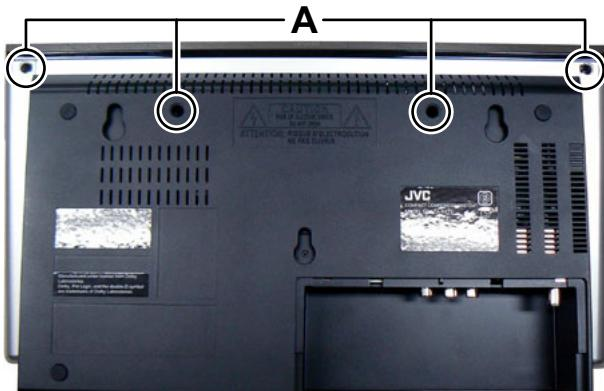

Fig.2
- (2) Remove the four screws **A** attaching the Top cabinet. (See Fig.2)